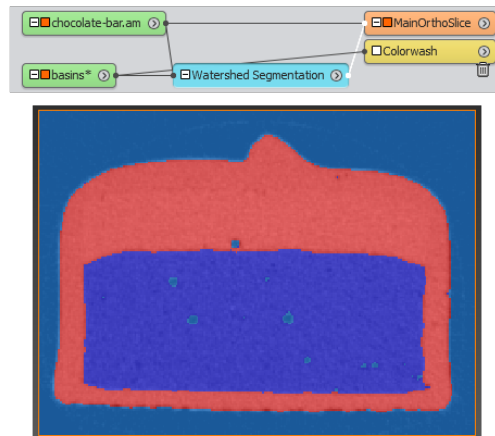

Figure 4.80: The *Watershed Segmentation* wizard completed.
- Simply press *Apply* to trigger computation (see Figure 4.80).